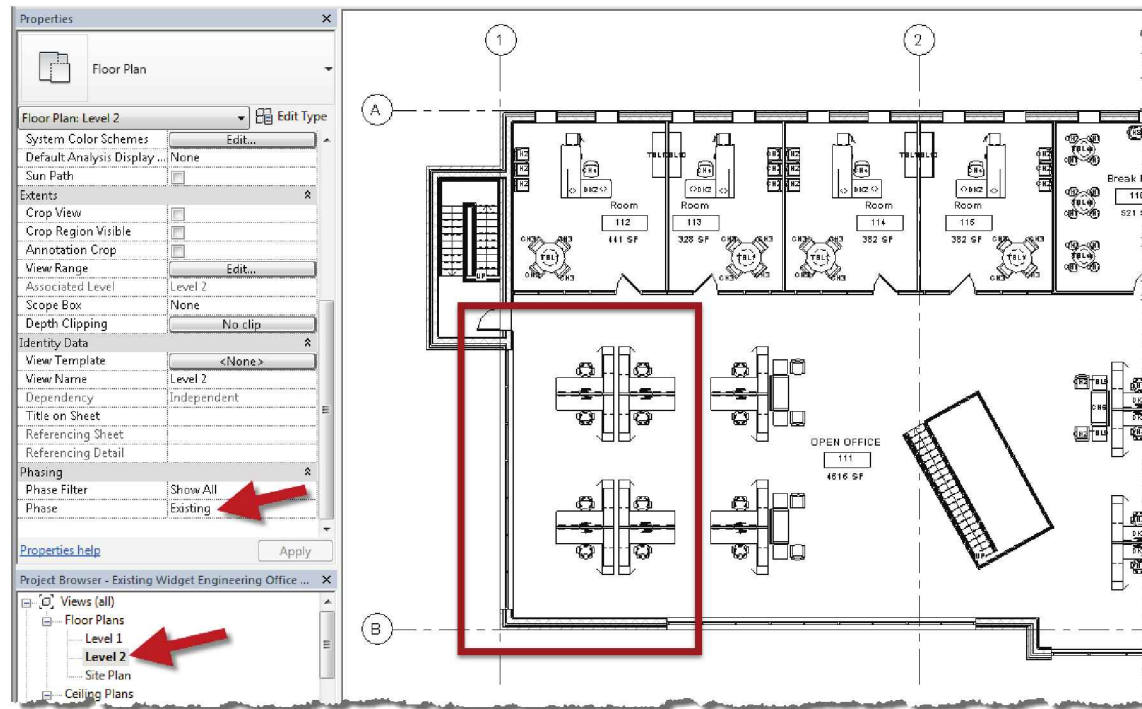

FIGURE 17-3.2 Level 2 floor plan with Phase set to existing
3. Switch to the **Level 2** floor plan view (Figure 17-3.2).